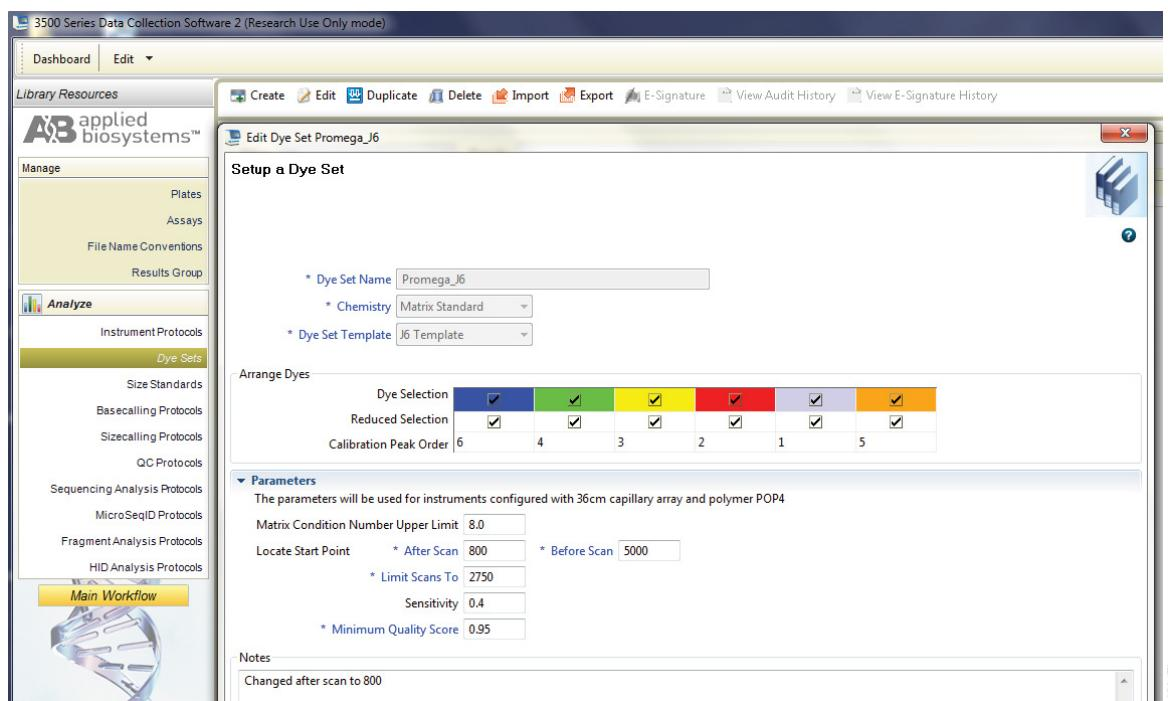

Figure 2. The Create New Dye Set window.
- b. The Create a New Dye Set window will appear (Figure 2). Name the Dye Set (i.e., Promega J6), select “Matrix Standard” for the Chemistry and select “J6 Template” for the Dye Set Template.